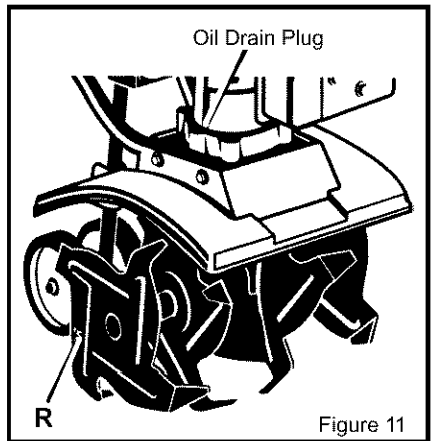

Figure 11
3. When the tines are properly installed, the letter **R** will be visible on the outside of the **right tine** (see Figure 11). The letter **L** will be visible on the outside of the left tine.